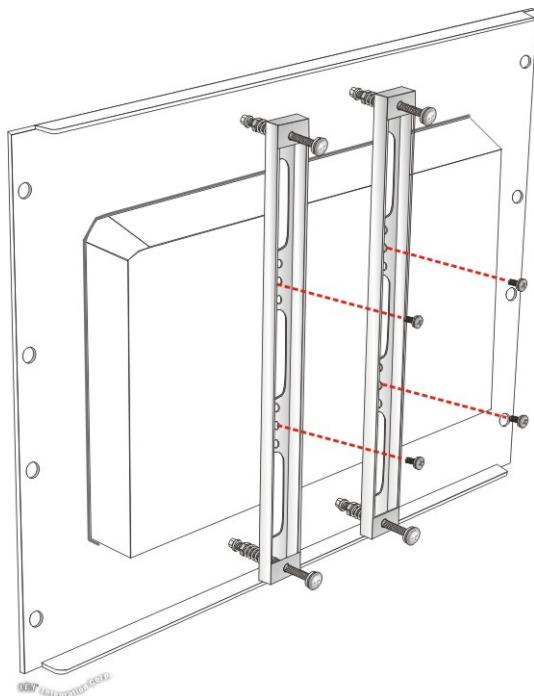

Figure 3-21: Securing Rack Mounting Brackets
Step 5: Secure the two rack mounting brackets to the rear of the panel PC by inserting the four retention screws into the VESA mounting holes and tightening them (Figure 3-21).